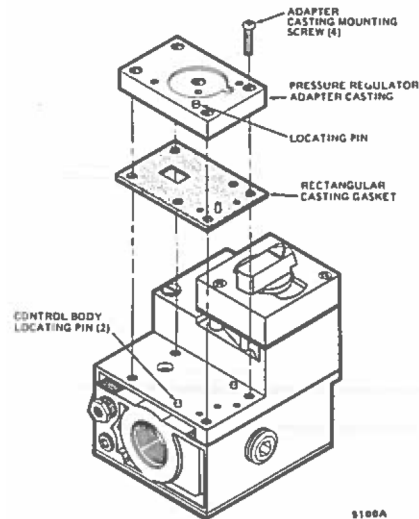

Fig. 4. Installation adapter casting.
3. Carefully place rectangular gasket and casting (Fig. 4) on manifold so that locating pins mate with gasket and casting.